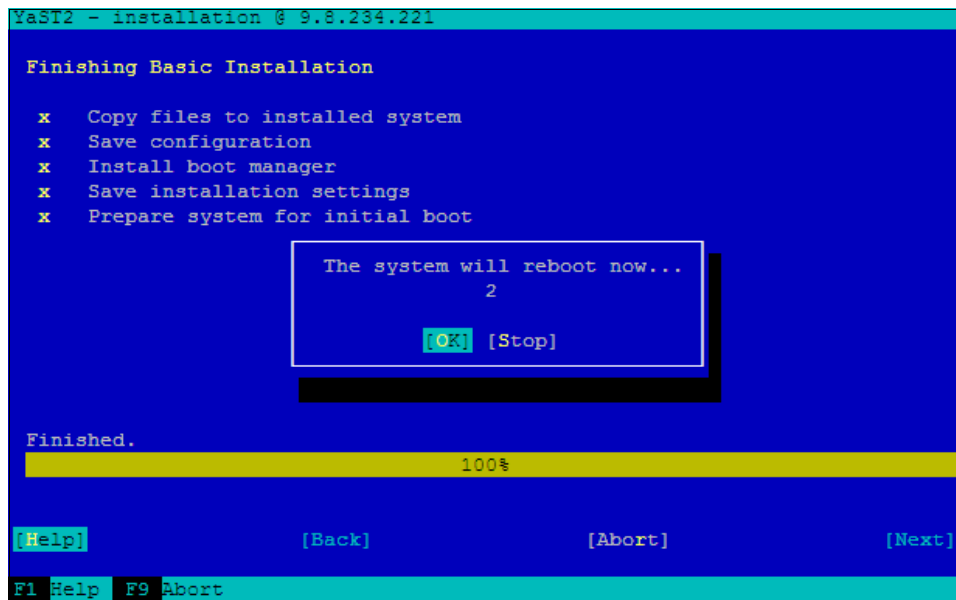

Figure 9-25 Reboot now
18. Boot the system. See Figure 9-25 on page 385.